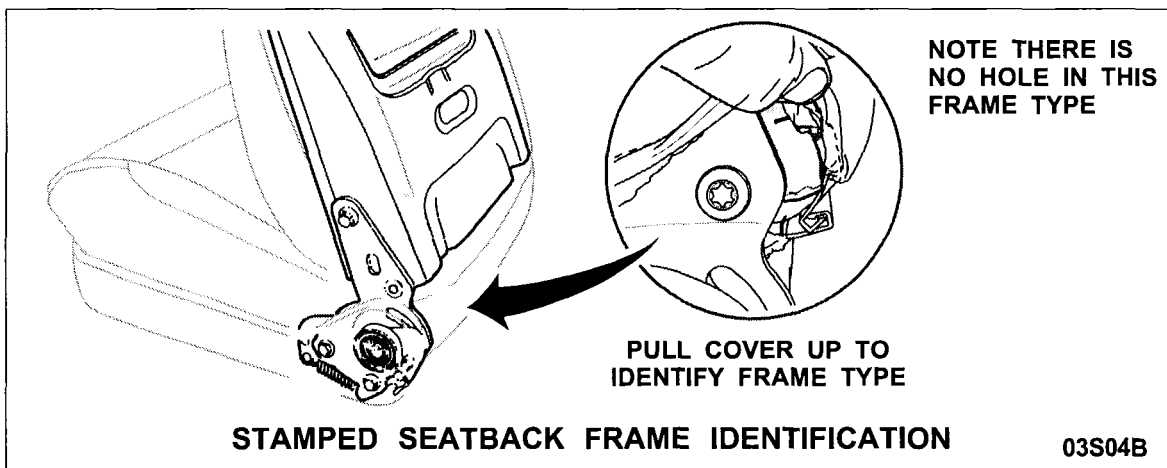

FIGURE 2
- Stamped seatback frames can be identified by not having the tell-tale hole in the frame that is evident on the tubular seatback frame. See Figure 2.